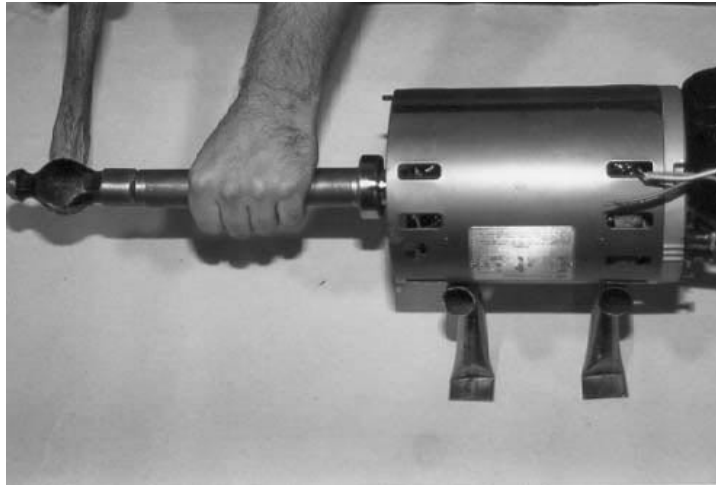

Figure X-9 LM motor bearing installation.
4. Tap the new bearings in place using the bearing driver tool. (P/N:#SS-C230) - (Fig. X-9)